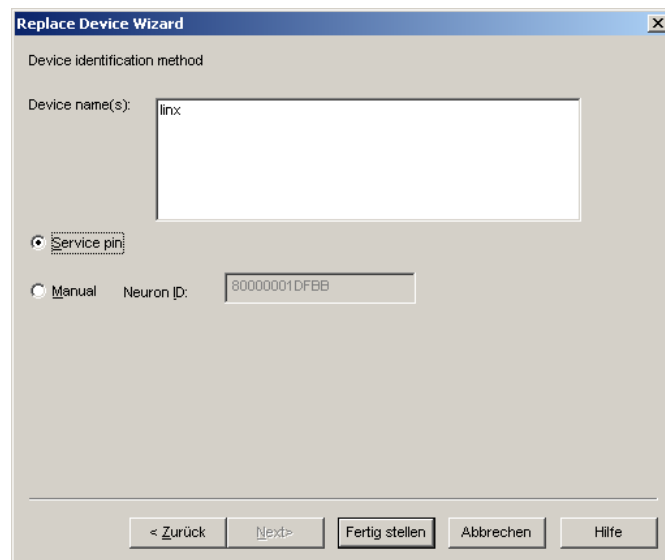

Figure 125: Select Service Pin and click Finish.
6. Select the **Service pin** method and click on **Finish** as shown in Figure 125.